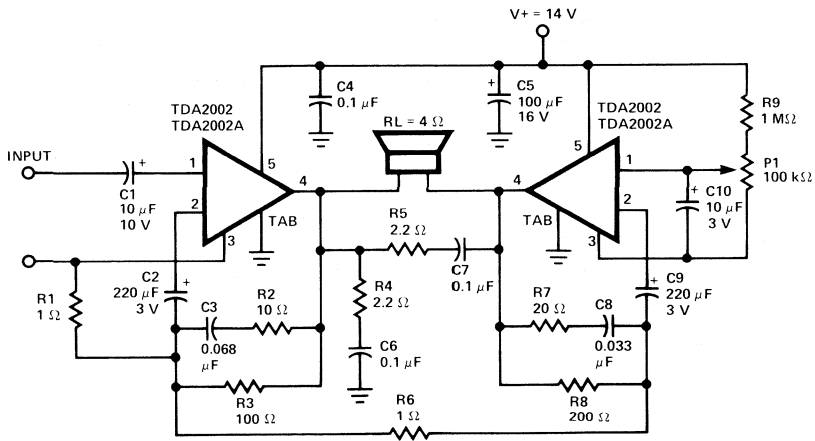

Fig. 23
Figures 23 and 24 show a typical 15 watt bridge circuit utilizing two devices. A potentiometer (P1) is included to balance the offset voltages between the two devices.
P.C. BOARD AND COMPONENT LAYOUT FOR THE CIRCUIT OF FIG. 23 (1:1 SCALE)